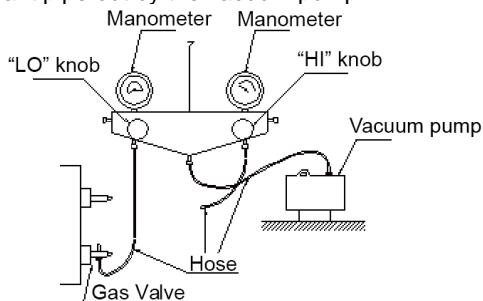

Fig. 9
- 3) As shown in the following figure (Fig.9), expel the gas inside the indoor unit and refrigerant pipe out by the vacuum pump.